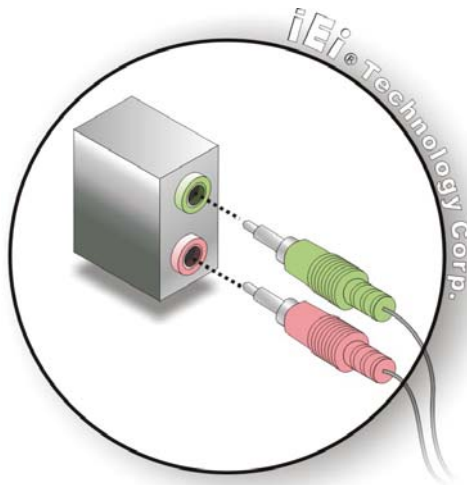

Figure 4-12: Audio Connectors
Step 2: **Insert audio phone jack plugs.** Insert audio phone jack plugs into the audio phone jacks on the external peripheral interface. See Figure 4-12.